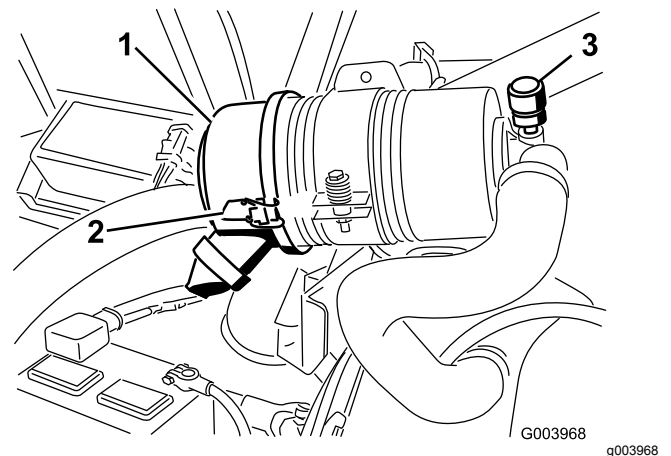

Figure 46
Service the air-cleaner filter only when the service indicator (Figure 46) requires it. Changing the air filter before it is necessary only increases the chance of dirt entering the engine when the filter is removed.
1. Release the latches securing the air-cleaner cover to the air-cleaner body (Figure 46).